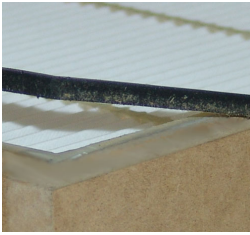
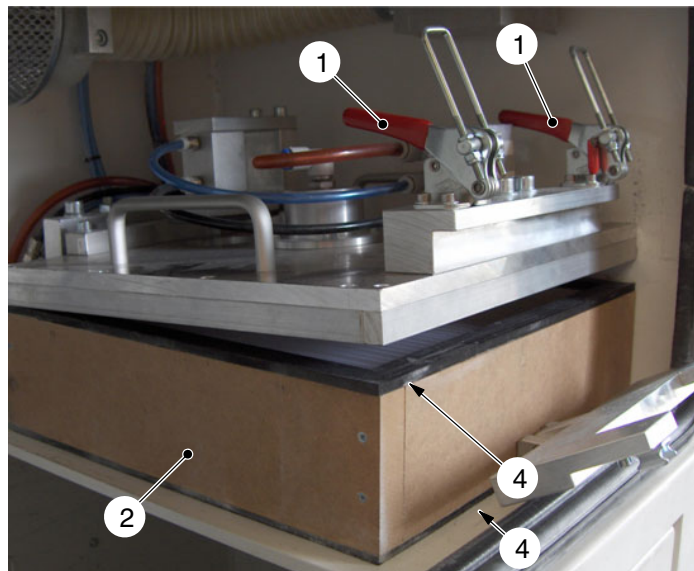

Fig. 5-2
Fig. 5-3
NOTE: A spare parts kit with four seals (4, Fig. 5-3) can be ordered if the main filter cassette seals have detached (Fig. 5-2) (Refer to separate parts list).
3. Release all of the locks (1, Fig. 5-3); fold back the front one.